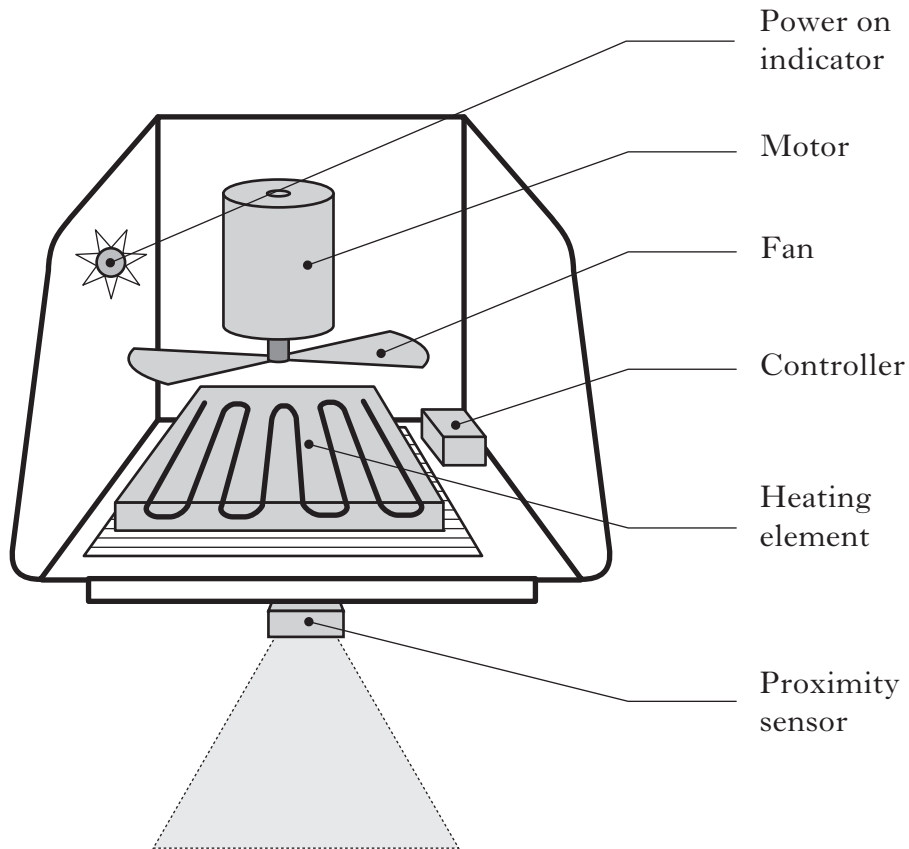

Figure Q9
- (5)**
9. An automated hand dryer, shown in Figure Q9, consists of a controller, a proximity sensor, a heating element, a power on indicator and a motorised fan. The system is designed to blow warm air for 1 minute after the sensor is activated and then stop automatically. The heating element is interlocked to the motorised fan and it cannot operate until the fan is running. The heating element is switched off 5 seconds before the fan is stopped.